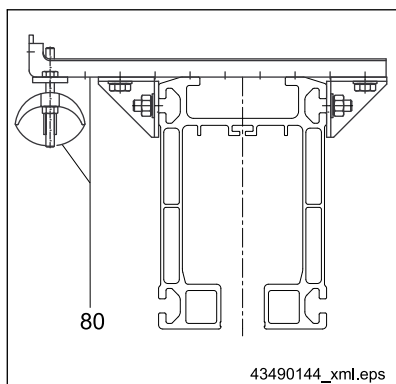
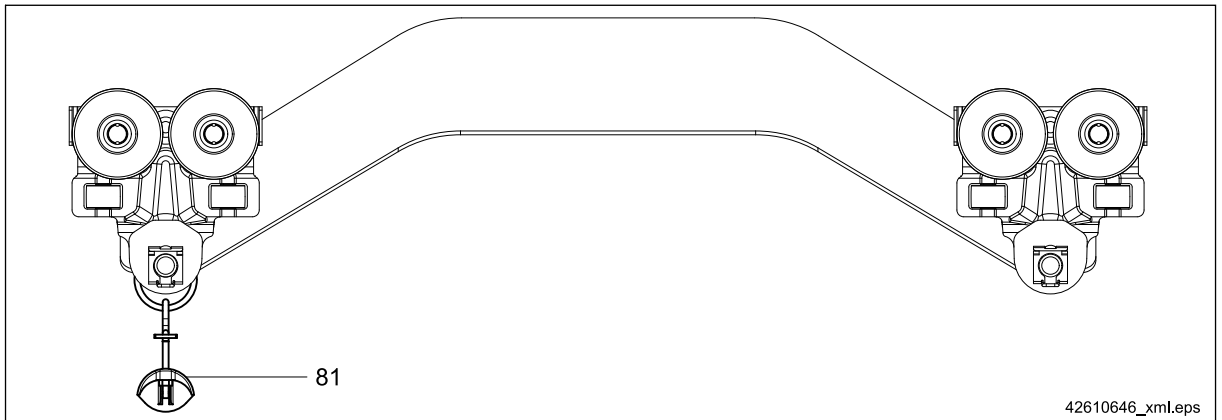
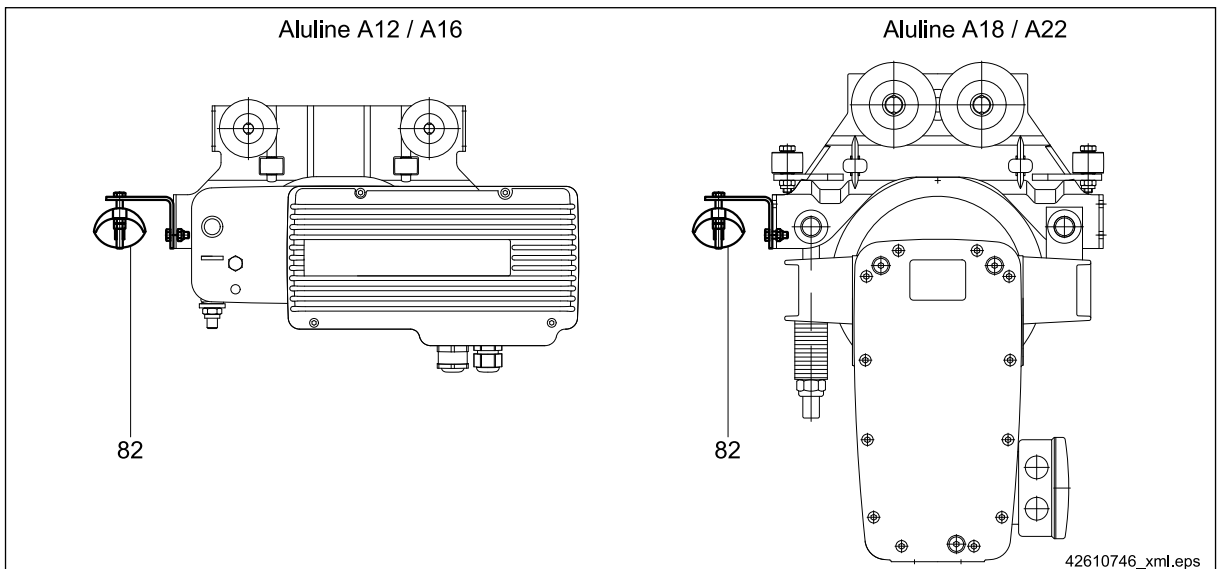
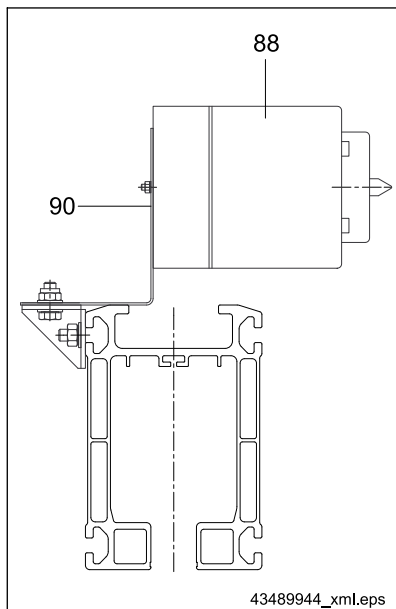

Fig. 66
Fig. 67
Fig. 68
Fig. 70
- mains on/off switch/isolator (88) ⇒ Fig. 70, Page 70, fuses with inserts, if required,
- flat cable (84),
- cable sliders (85) or cable trolleys (86),
- cable clamps at rail end (83), on crane girder (80) ⇒ Fig. 66, Page 68, on crab frame (81) ⇒ Fig. 67, Page 69, on trolley for RF(82) ⇒ Fig. 68, Page 69,